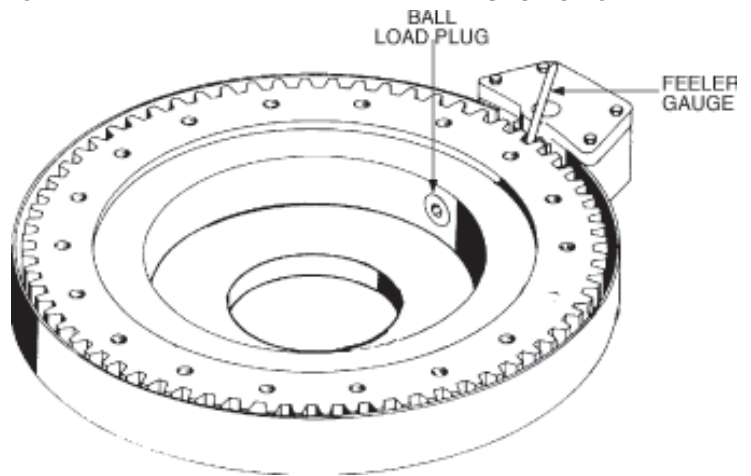

Figure C-6: Turntable Gear Bearing Installation
10. Install the new gear bearing, with ball loading plug located next to pinion gear (See Figure C-6), using new bolts, hardened flat washers and Loctite 262 or an equivalent thread lock on bolt threads. Torque all cap screws per Torque Data Charts in the general reference section.